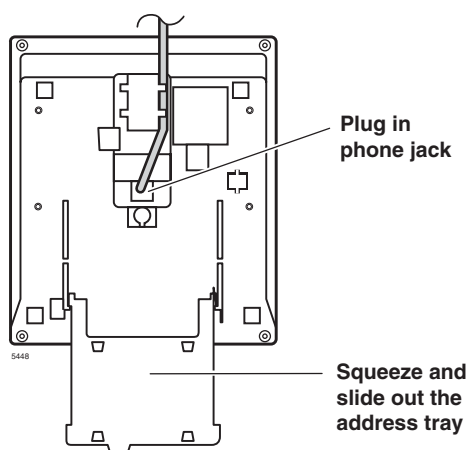

Figure 7-17 Bottom View of Digital Telephone
2. Slide the Address Tray out, then gently squeeze the tray and remove it (see Figure 7-17).